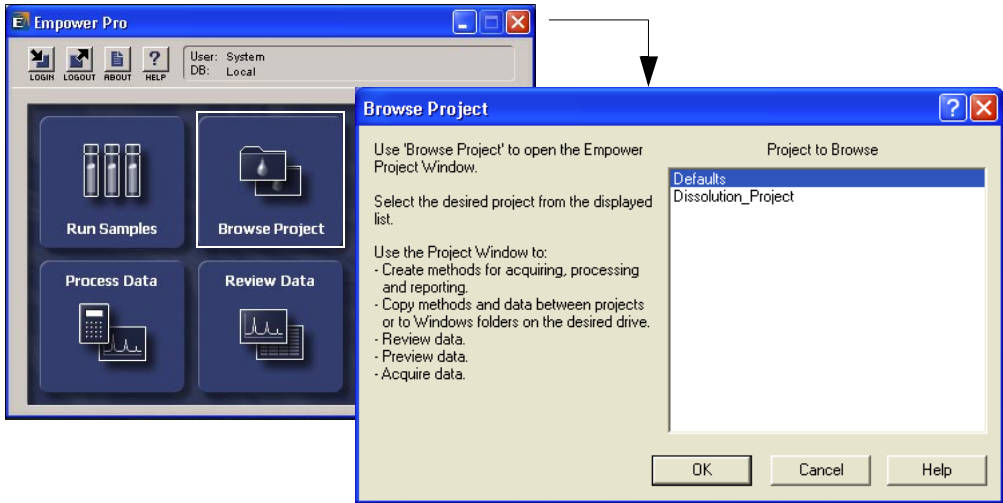

Figure 3-1 Empower Pro Window and Browse Project Dialog Box
1. Log in to Empower, then click **Browse Project**. The Browse Project dialog box opens as shown in Figure 3-1.